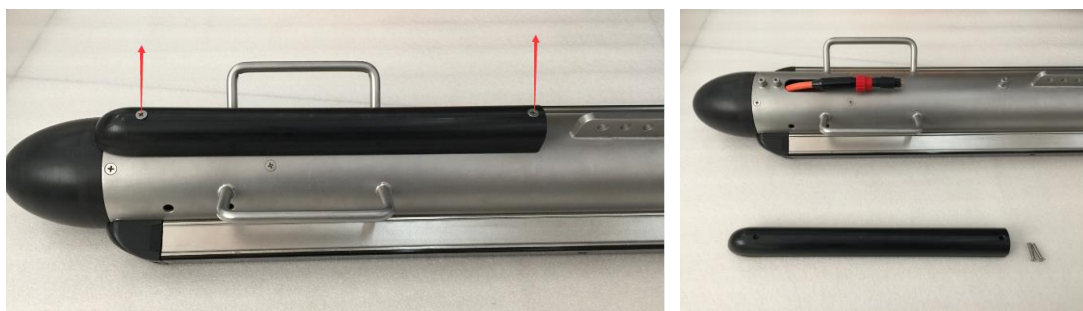

Figure 5.4 Remove Cable Protection Cover
- 2) Use a screwdriver to remove the cable protection cover of towfish, as shown in Figure 5.4;